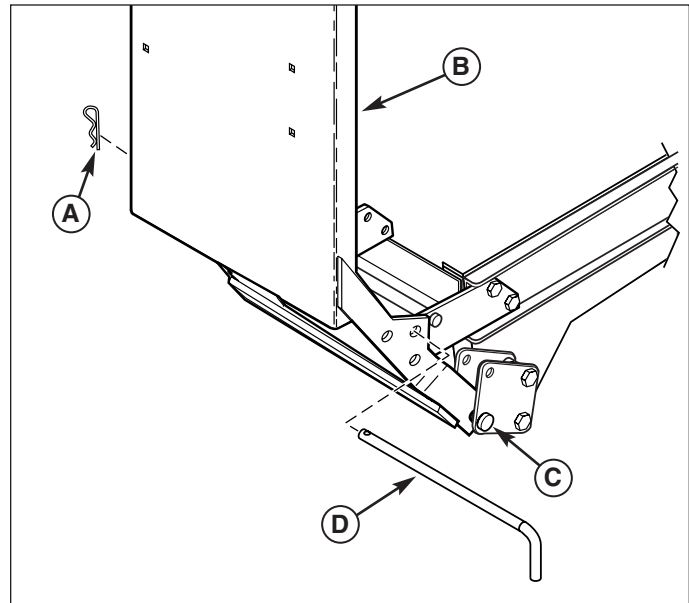

Figure 3. Install Back Plate
3. Install the back plate (B, Figure 3) on the lower spacers (D) and secure to the hitch with the long hitch pin (C) and hair pin clip (A).